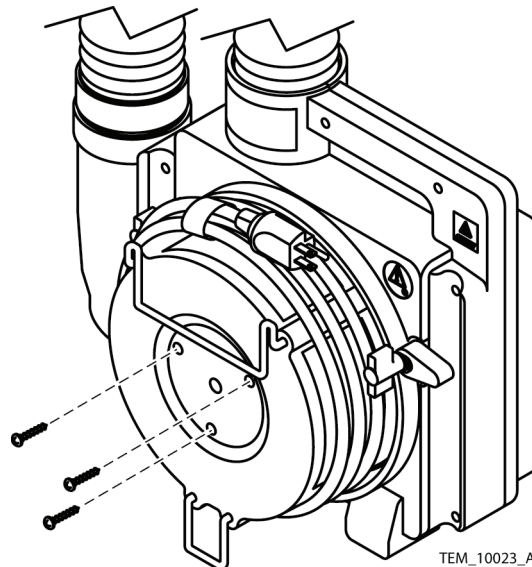

Figure 54. Filter Cover Installation
28. Install the filter cover assembly on the rear cover assembly. Tighten the screws to 8 to 12 in/lbs (20 to 30 cm/kg). See Figure 54.